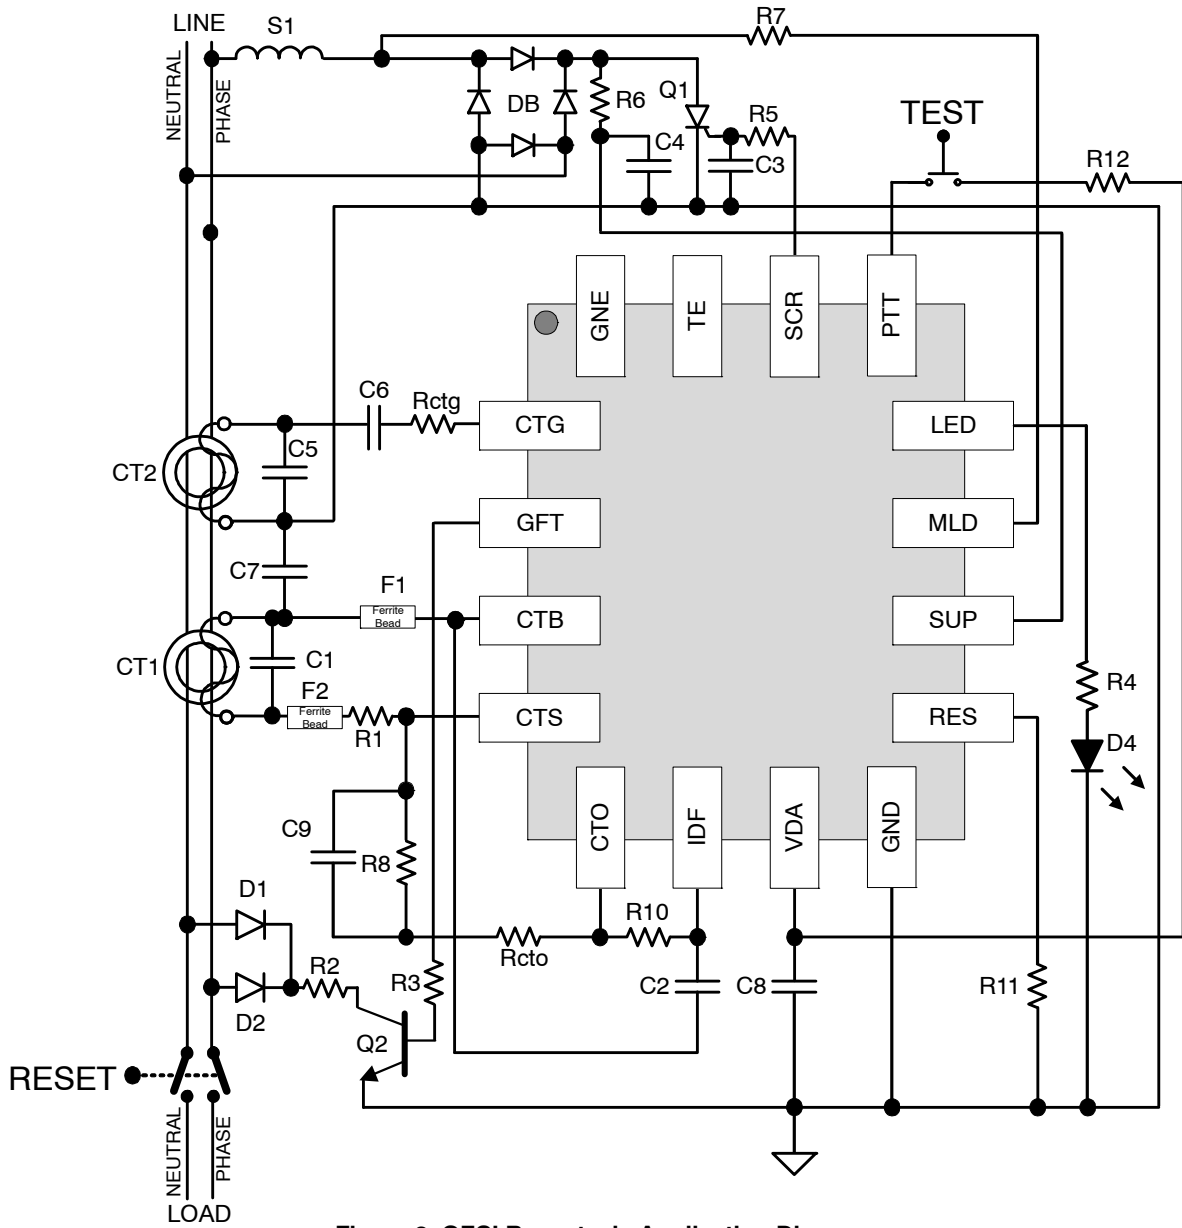

Figure 2. GFCI Receptacle Application Diagram
**Table 4. OPERATING RANGES** (Unless otherwise noted,  $I_{SUP} = 3 \text{ mA}$ , MLD input = 60 Hz, Refer to Figure 2)